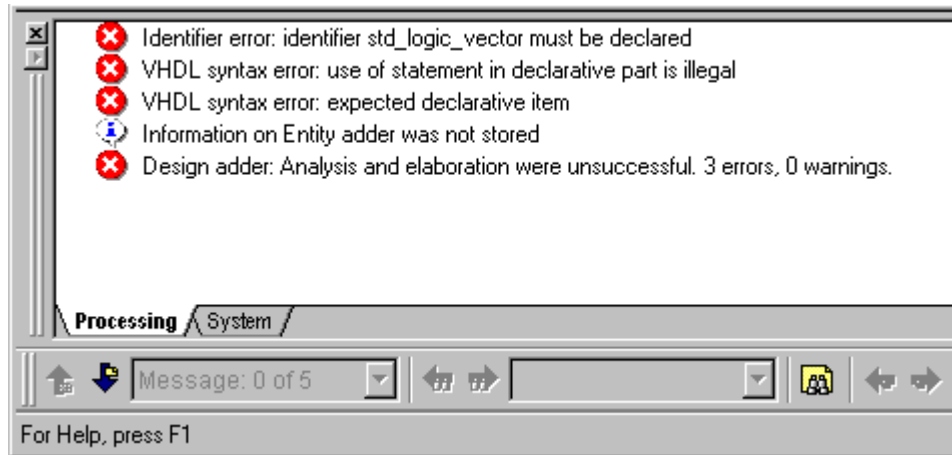

Figure 1-7.
4. You should get the following error messages shown in Figure 1-7.